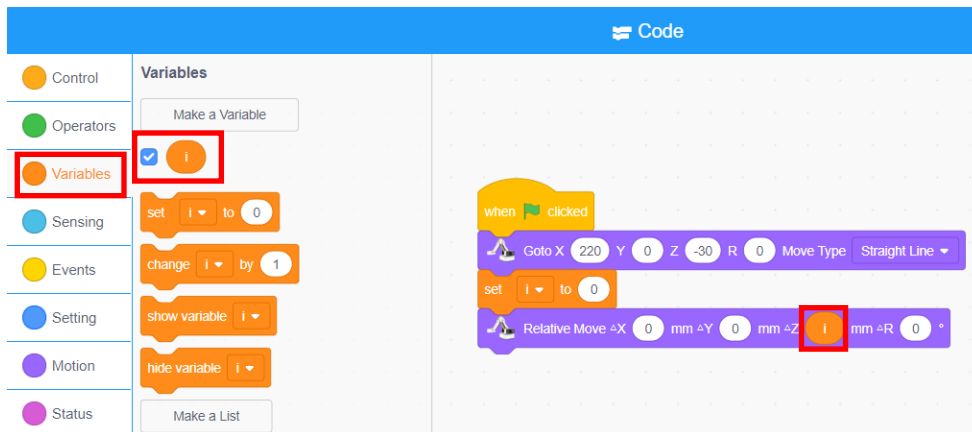

Figure 2.8 Variable "i" block
- 2) Click the "**Variables**" tab, drag the variable "i" to the code area, and put it together at the oval position after ΔZ , as shown in Figure 2.8.